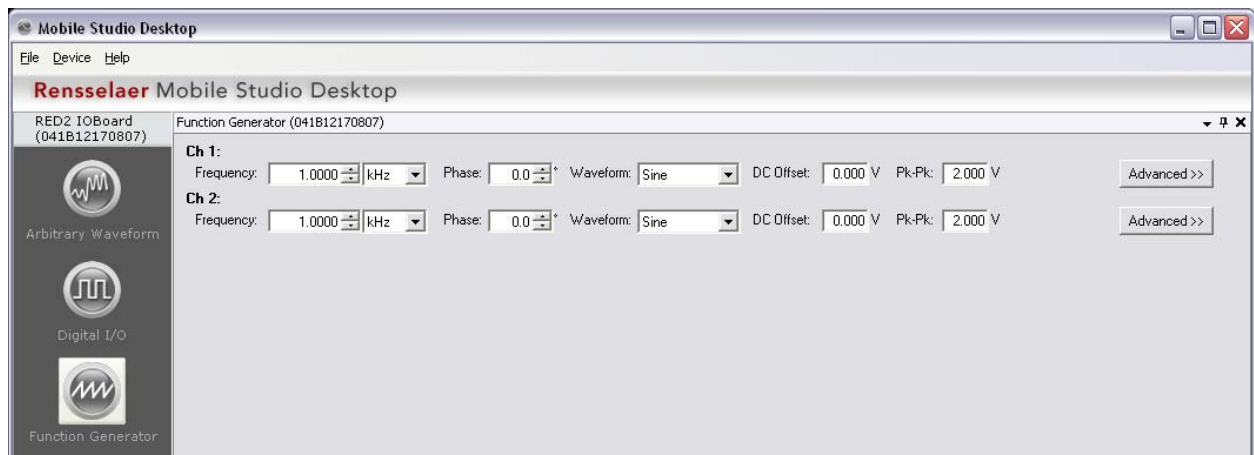

Figure 1.0: Function Generator
- 1) Select the “Function Generator” icon third from the top along the left-hand side of the program, as shown in Figure 1.0 below.